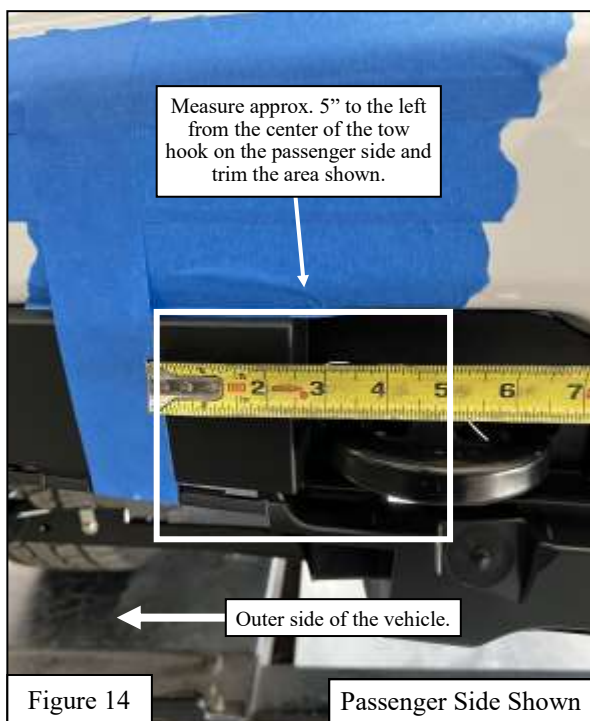

Figure 14
21. Carefully trim the factory tow hook pocket and lower valence area to fit the Lower Mounting Bracket (Items 2-3). See **Figures 14 through 16** for reference.